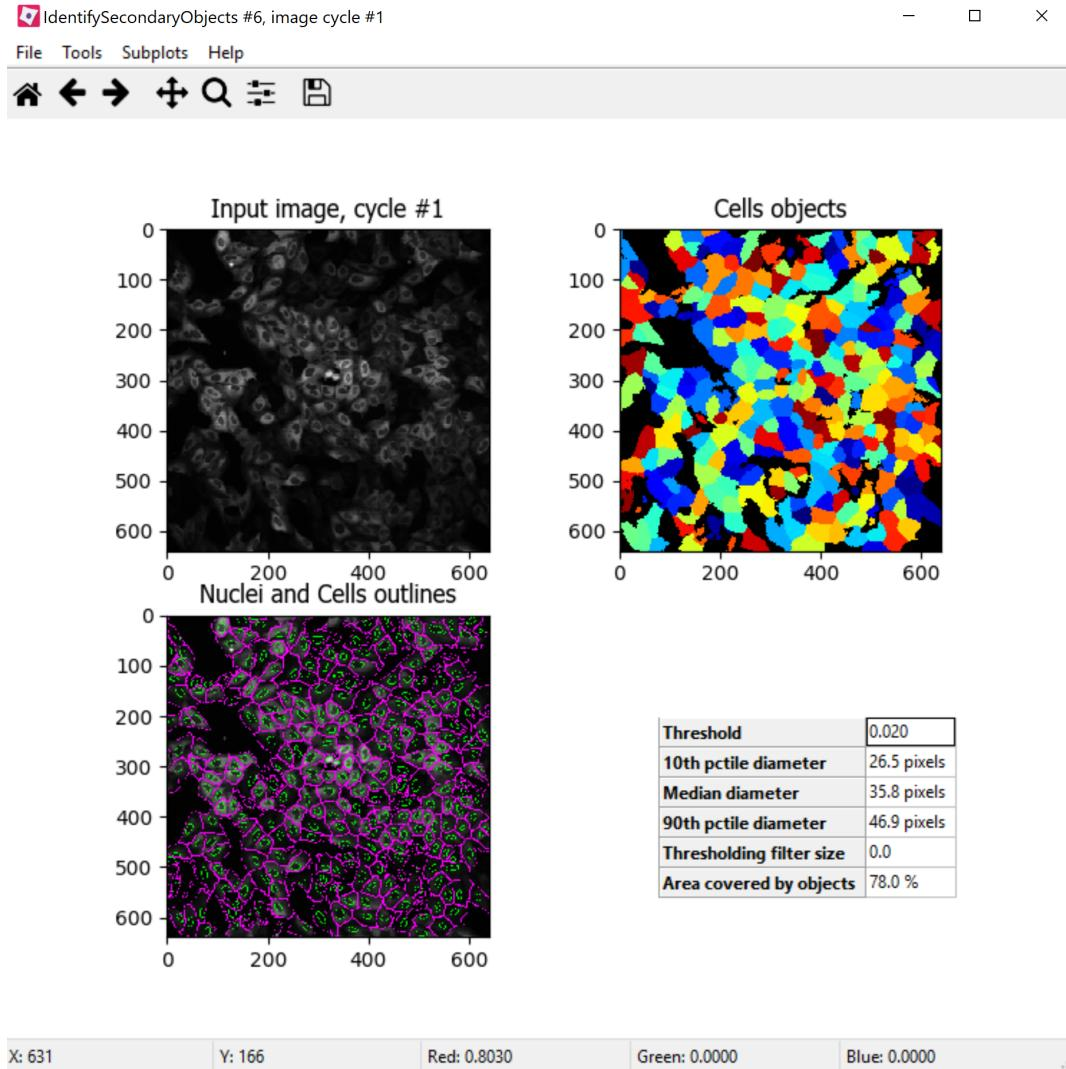

Figure 4: Example module display window for *IdentifySecondaryObjects*
- Click on the  button to execute the module and see the results of secondary object identification using the module settings (Fig. 4).